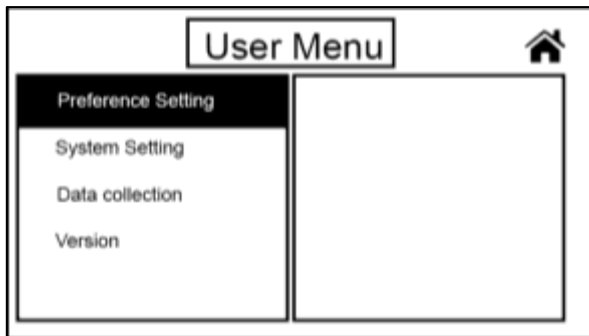
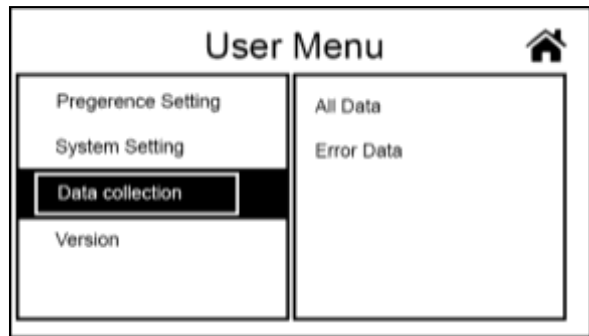

Figure 112
Figure 113
2) Touch the “Menu” key at the lower right corner of the screen to enter the “User Menu” interface, as shown in Figure 112. Then touch the “Data Collection” to enter the Data Collection interface, as shown in Figure 113.